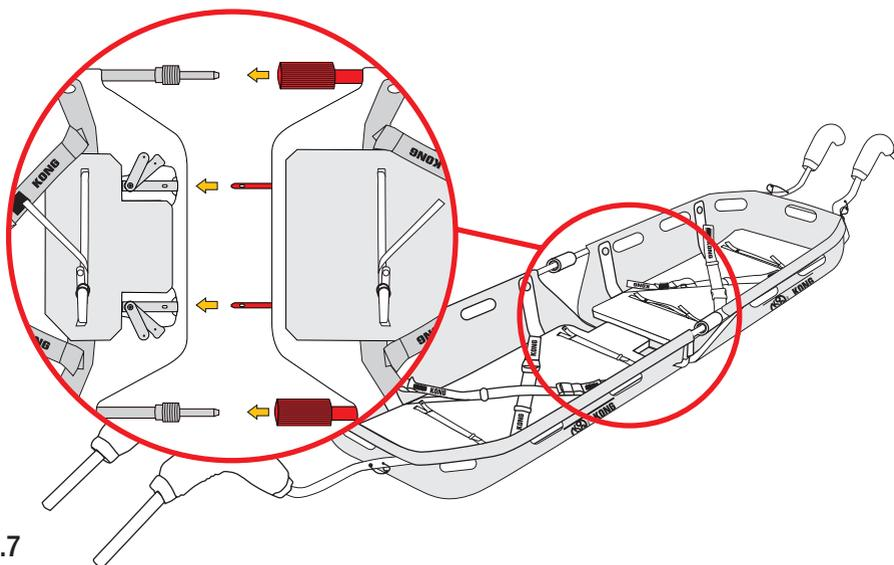

Fig.7
c) Connect the two parts of the structure using the pins on the frame (fig. 7),